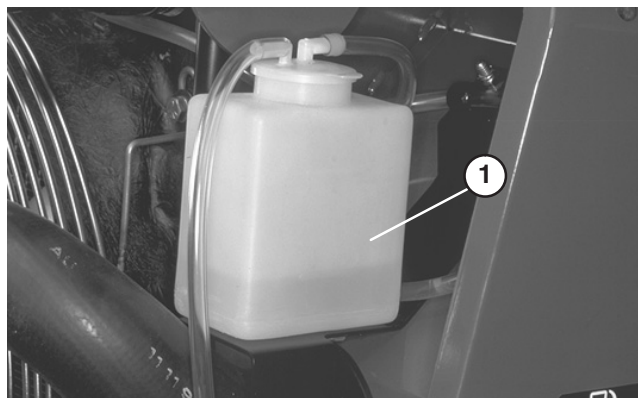
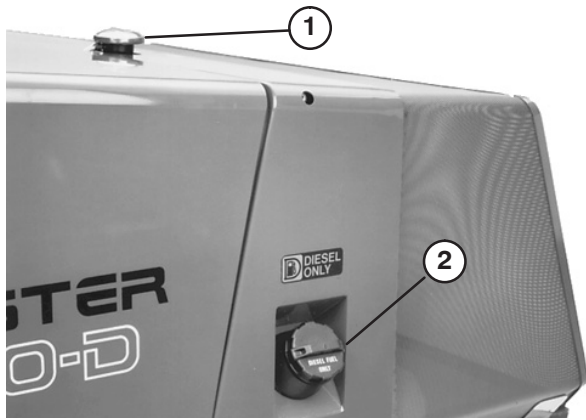

Figure 5
Figure 6
1. Carefully remove radiator cap (Fig. 6) and expansion tank cap (Fig. 5).
1. Remove fuel tank cap (Fig. 6).